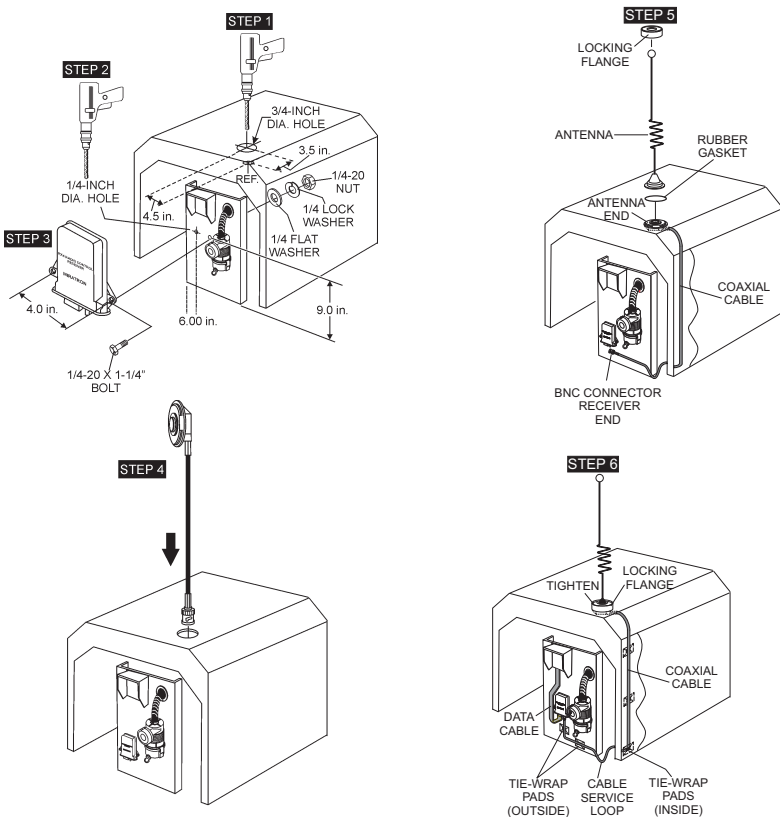

Figure 1. Antenna/Receiver Installation
1. Drill a 3/4" hole into the hood on the C30HDG as shown in Figure 1.
1. Drill two 1/4" holes into the control box support panel on the C30HDG as shown in Figure 1.
3. Using a 1/4-20 x 1-1/4 bolt (2), 1/4 lock washer (2), 1/4 flat washer (2) and 1/4 nut (2), mount the radio control receiver onto the control box support panel as shown in Figure 1.